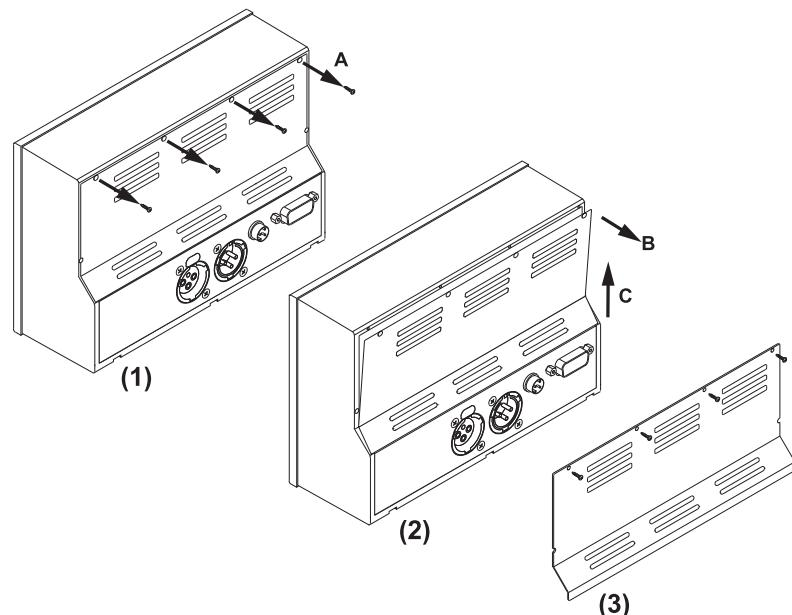

Fig. E 7-2: Removing of the backplane cover
3. Loose the four screws on the rear side (upper flange). Open the backplane cover and remove it. Store screws and metal plate. (Fig. E 7-2)